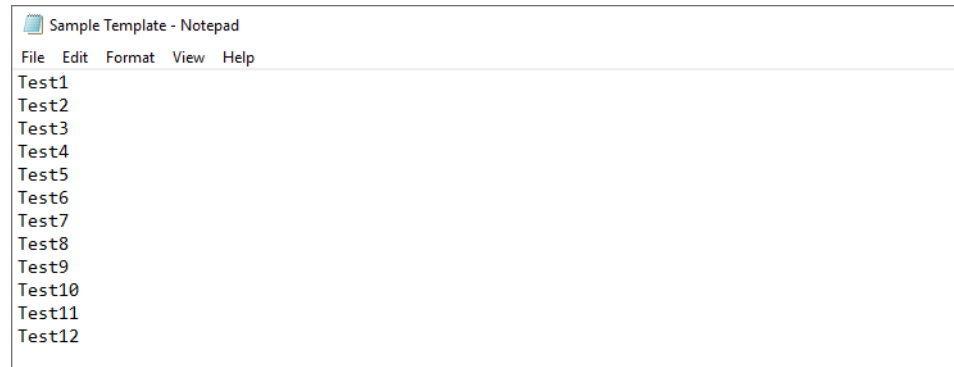

Figure 81 .txt file format (single row of names—no well numbers or row numbers).
- For a .txt file, the sample names must be arranged in a single column (**Figure 81**).